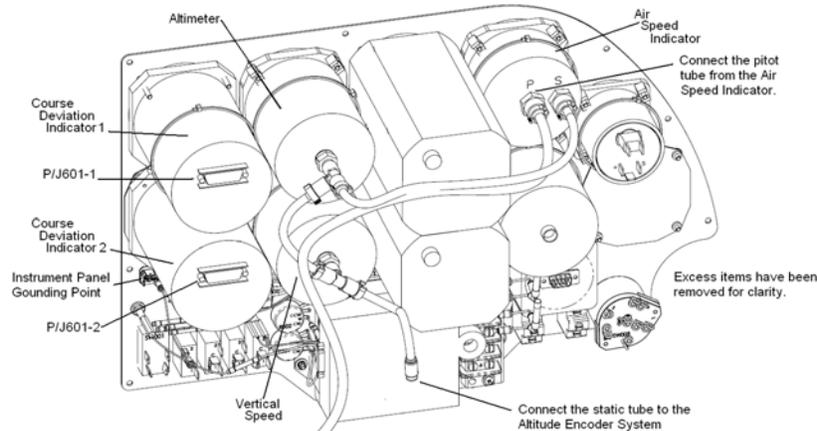

Figure 31-9 Rear of Instrument Panel Showing the Locations for Connecting the Pitot and Static Lines
6. If the instrument panel has one or two Course Deviation Indicators (CDI), connect the electrical connectors on the back of the CDI. (P/J106-1 and/or P/J106-2) See Figure 31-9 for the location of the connectors P/J106-1 and/or P/J106-2. Connect the ground shields from the CDI cables to the grounding point on the instrument panel.